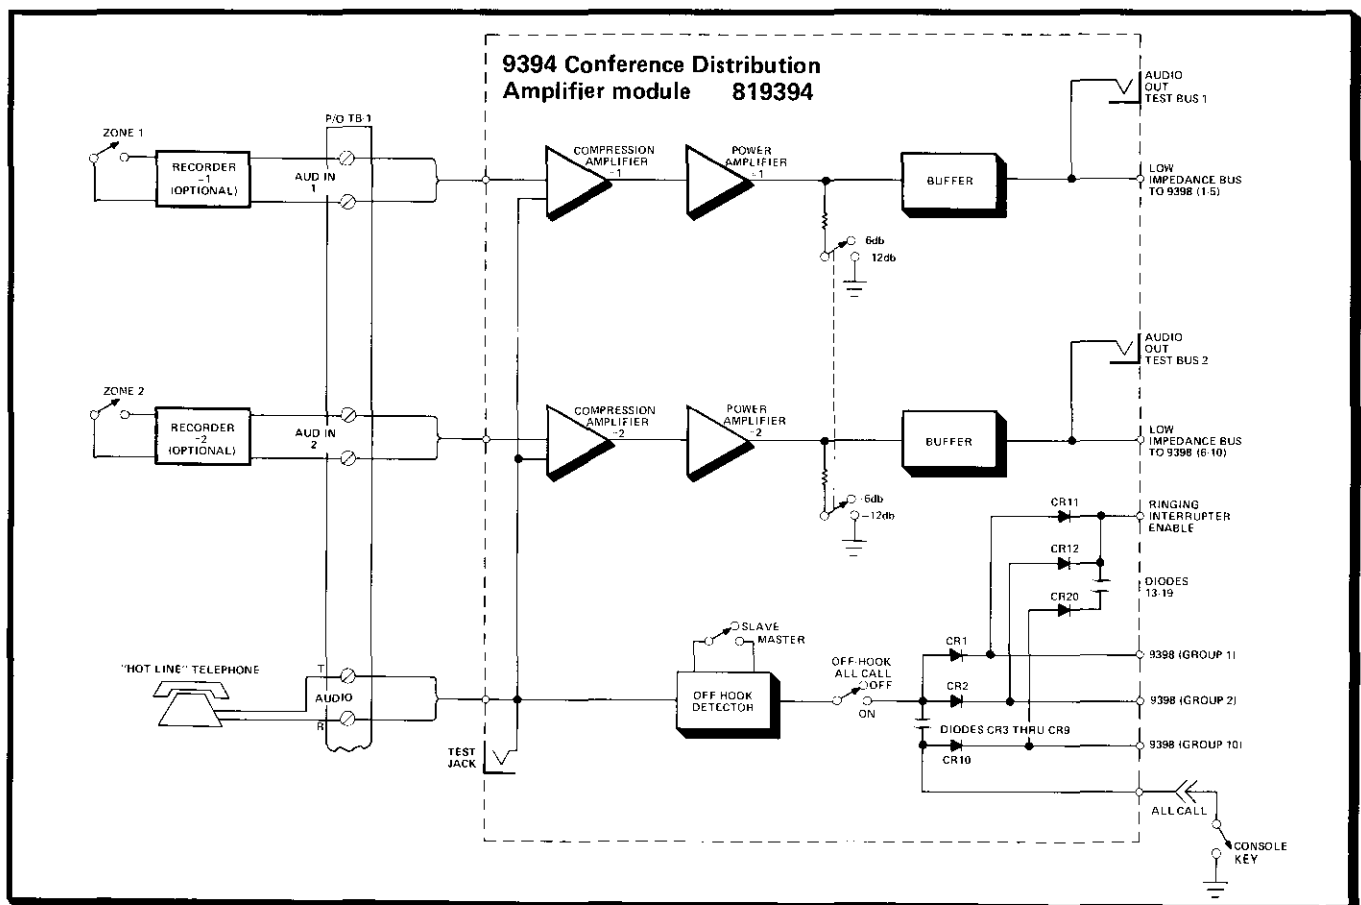

figure 5. 9394 Conference Distribution Amplifier module (819394) block diagram
2.09 The 9394 Conference Distribution Amplifier module (see figure 5) provides two isolated high-impedance audio inputs for bridging two or more 294 Mounting Assemblies to one or more message sources. A compression amplifier in each circuit ensures a constant output level for a wide range of input levels, thereby eliminating the need to perform alignment or make level adjustments. The output of each compression amplifier is